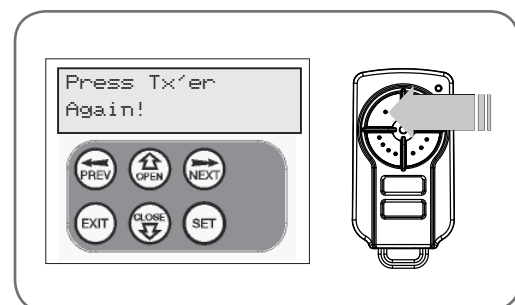

fig 27
3. Press the same transmitter button again as prompted by the display. (Fig. 27).